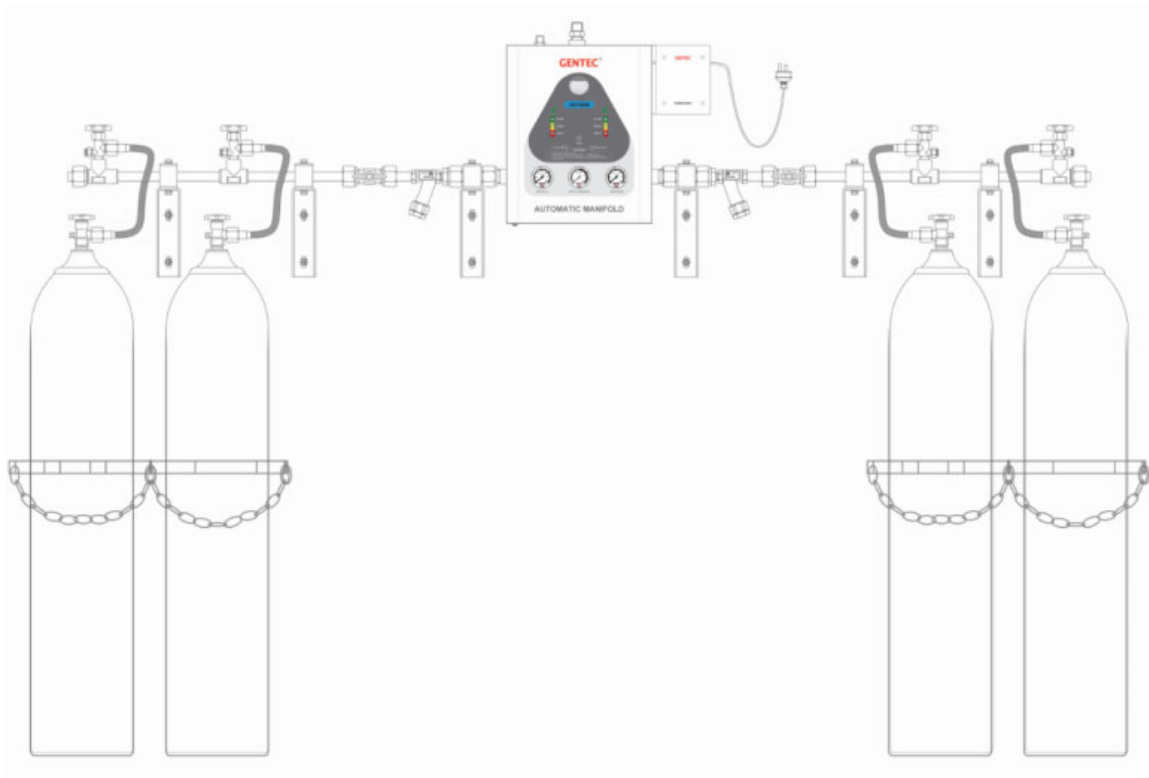
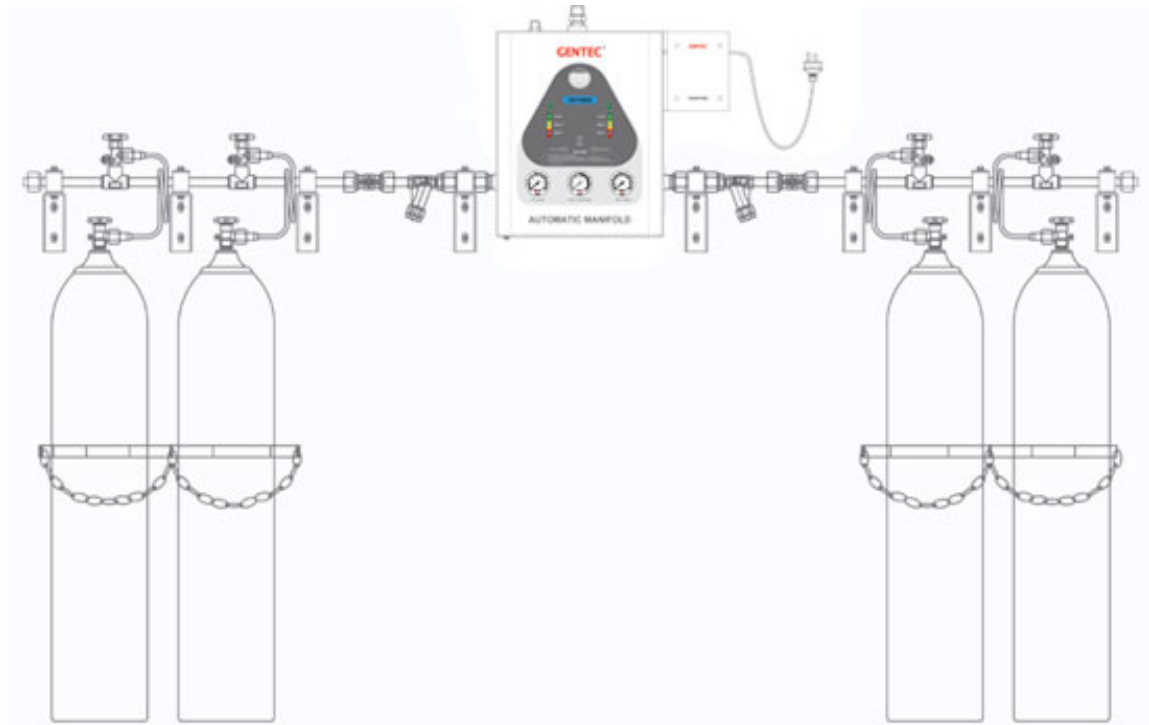

Figure 6
Figure 7
All manifold other than oxygen and helium utilize 36" length flexible stainless-steel braided pigtails. All cylinders on the right bank of the manifold, even those placed directly beneath should be positioned so that the cylinder outlets face right. All cylinders on the left bank of the manifold, even those placed directly beneath should be positioned so that the cylinder outlets face left. Figure 6 illustrates a typical 2 x 2 GENTEC GM2-A Series automatic manifold system utilizing 36" length flexible pigtails.
Oxygen and helium manifolds are supplied 36" length with pre-formed rigid copper pigtails. All cylinders on the right bank of the manifold, even those placed directly beneath should be positioned so that the cylinder outlets face right. All cylinders on the left bank of the manifold, even those placed directly beneath should be positioned so that the cylinder outlets face left. Figure 7 illustrates a typical 2 x 2 GENTEC GM2-D Series automatic manifold system utilizing 36" length with pre-
3. Position the cylinders as shown in Figure 6 and Figure 7. Make sure that every cylinder that stand against the wall or stand freely on the floor is secured using chain or strapped belt. Rigid copper pigtails used in oxygen and helium manifolds may be bent according to the needs before connected to the cylinder outlets.